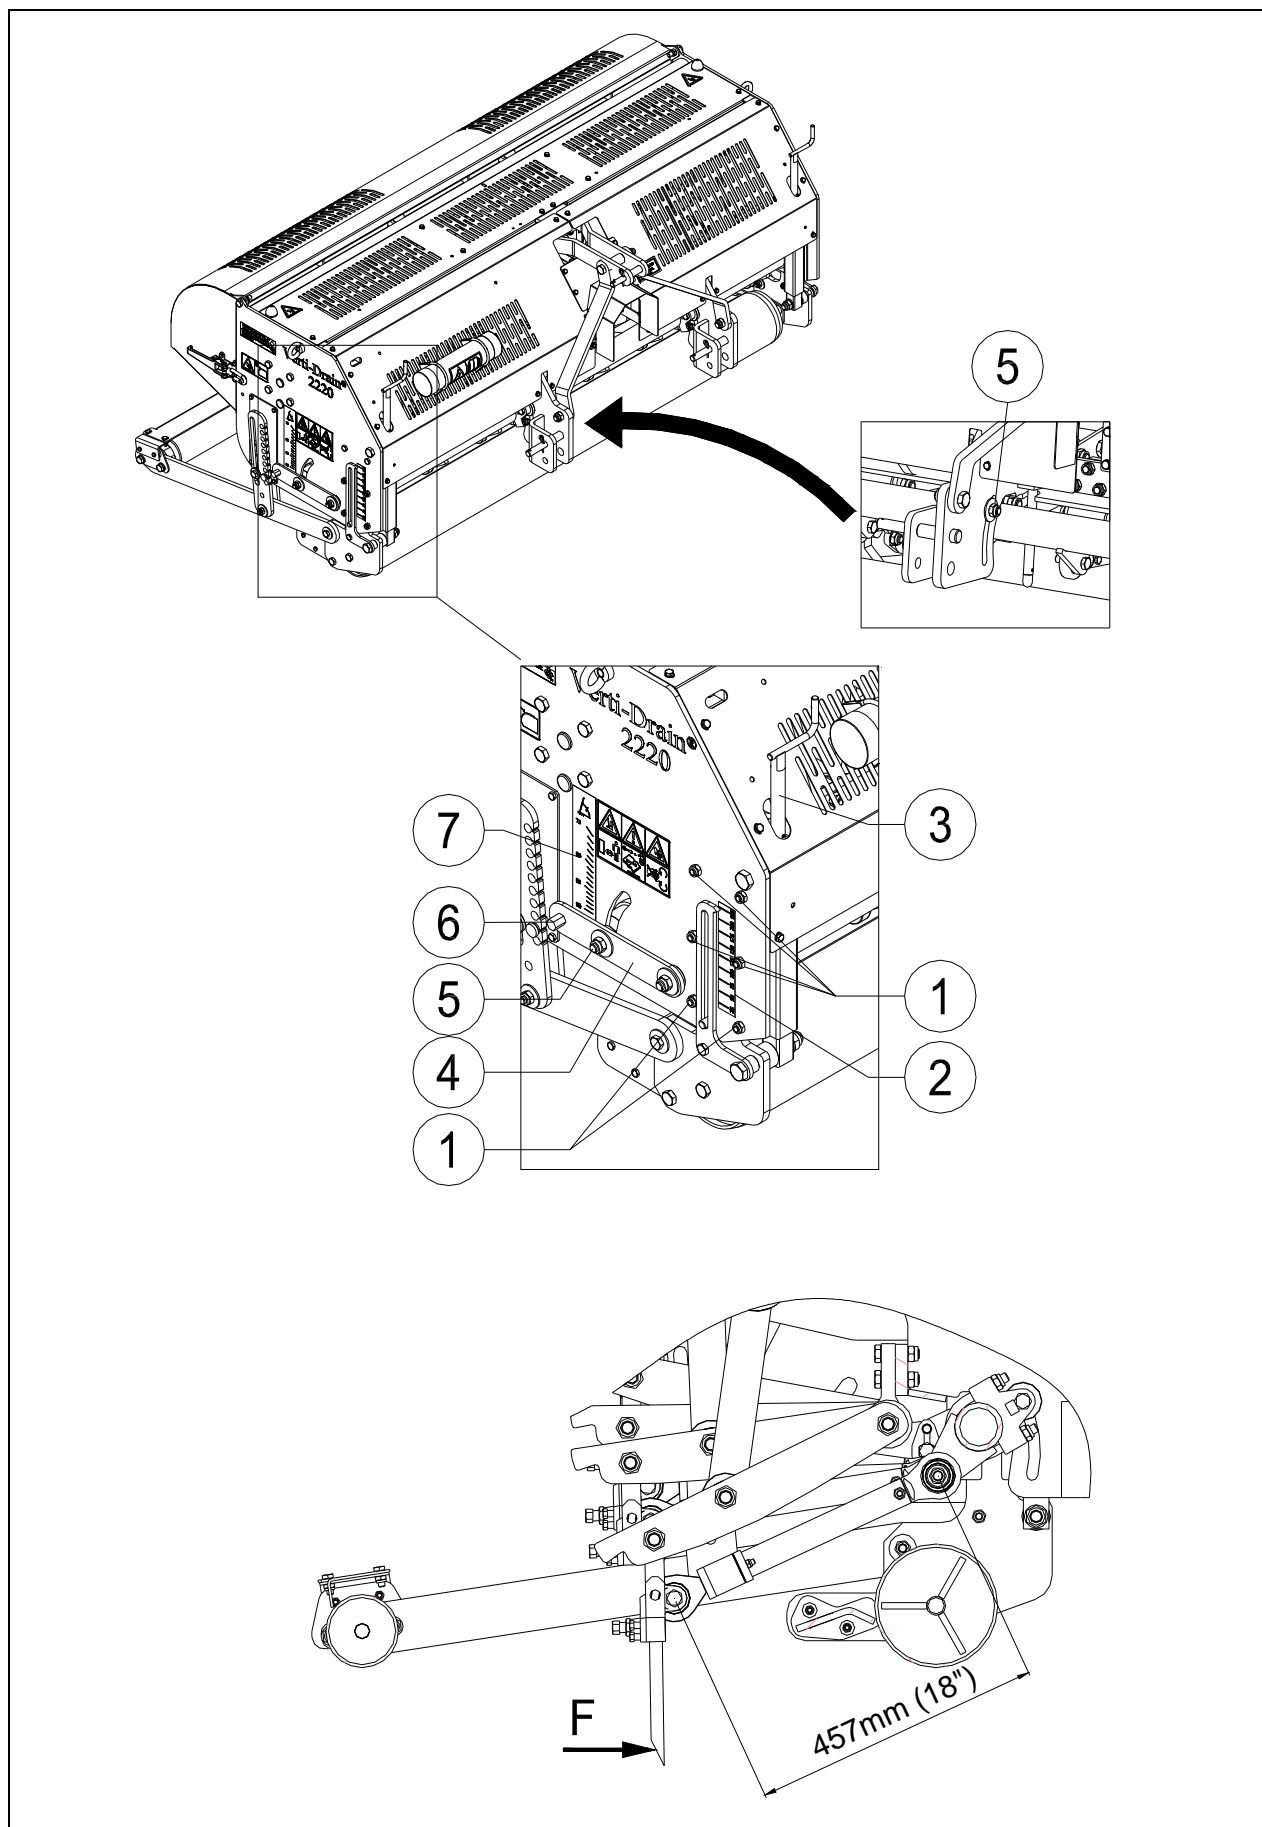

Fig. 10
The working depth can be adjusted when the machine is lifted, see Figure 10.
All pins can be adjusted simultaneously with the handles (4) at the side of the machine (see Figure 10). Raise the machine above the ground and loosen the check nuts (5) at both sides of the machine. Adjust the angle by putting the supplied ring spanner on the hexagon (6) of the handle (4). The indicator (7) gives the angle. Remove the supplied ring spanner and tighten the check nuts (5).
- ⚠ In case of 90°, the pins go into the ground perpendicularly only if the machine is correctly installed (see Figure 10). If the machine is incorrectly installed, a force F can occur which damages the machine.